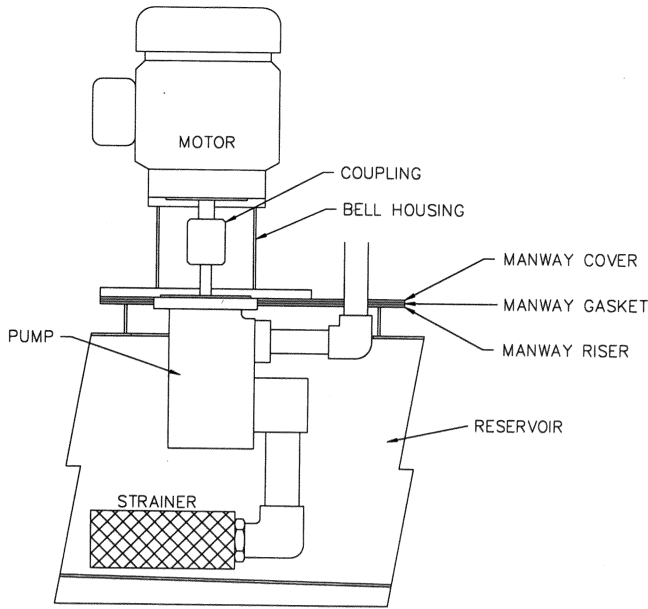

Figure 4. Vertical Pump Mounting Assembly.
Pumps that are mounted vertically in the tank should be mounted so the coupling is above the tank top (Figure 4). Mounting of the coupling below the tank top can result in aeration of the oil due to aerodynamic effects of the coupling.
• We recommend the pump installation be vertical on a bell housing with C face motor, per Figure 4. The bell housing ensures a permanent alignment. The vertical pump reduces skid size